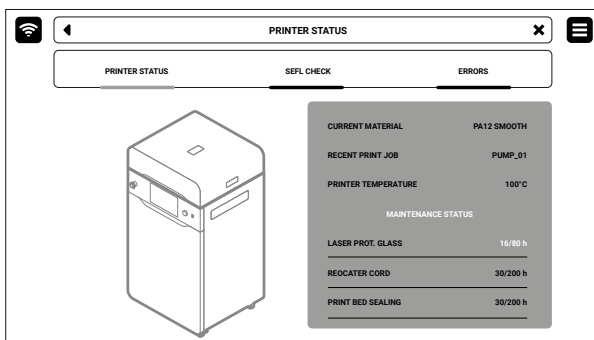

Fig. 12.2 **PRINTER STATUS** screen.
- PRINTER STATUS** tab, in which you can check the current status of the printer and the condition of the printer components (fig. 12.2). Components requiring maintenance and cleaning are: